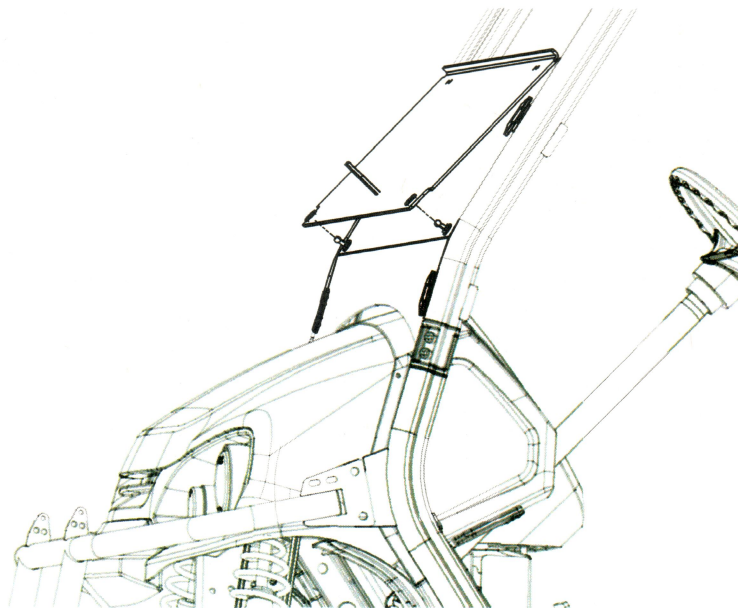

Fig. 8
2. Remove windshield connection from header pins (7F) and rotate to locate lower pins (7G), as shown in Fig. 8. Once connection is established, tighten the lower pins (7G).